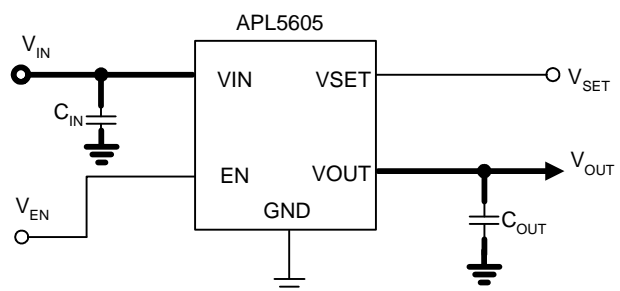

Figure 1
Figure 1 illustrates the layout. Below is a checklist for your layout:
4. Large current paths, the bold lines in figure 1, must have wide tracks.